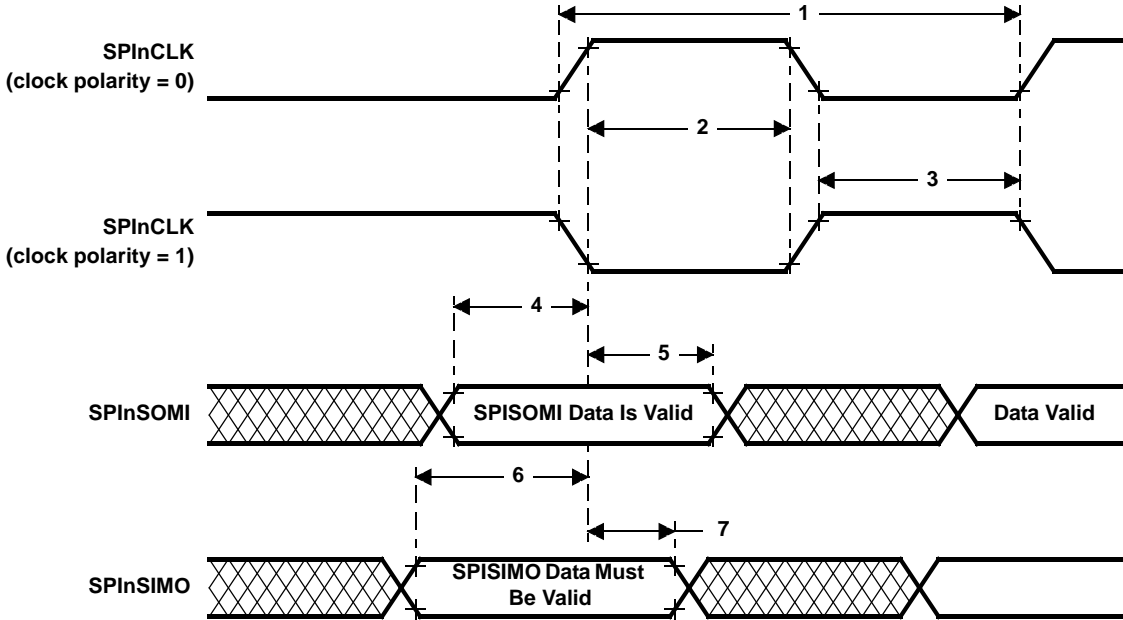

Figure 14. SPIn Slave Mode External Timing (CLOCK PHASE = 1)
**SPIn slave mode external timing parameters (CLOCK PHASE = 1, SPInCLK = input, SPInSIMO = input, and SPInSOMI = output)†‡§¶ (see Figure 14)**